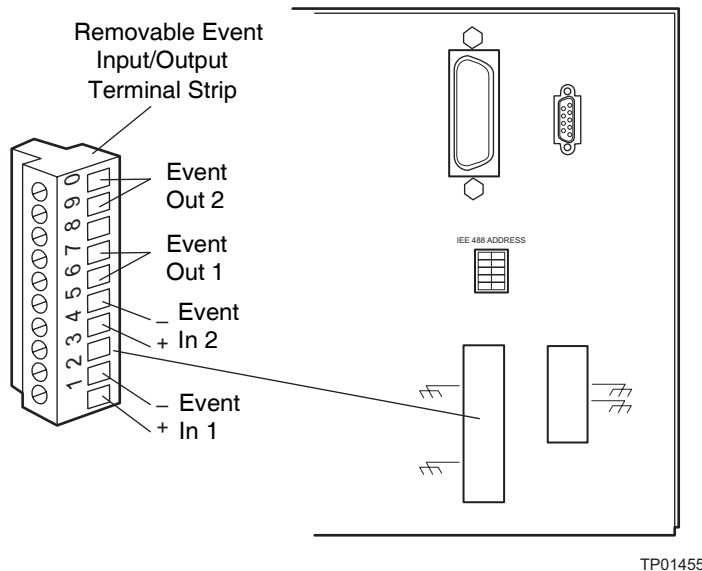

Figure 1-6 Event Input/Output Terminal Strip
Pull off the event terminal strip from the rear panel (Figure 1-6). This simplifies the following steps:
1. Insert the bare wires at one end of the event signal cable into the positive (+) and negative (–) slots of the appropriate event input or output terminal (Figure 1-6). Tighten the two screws to secure the + and – wires.